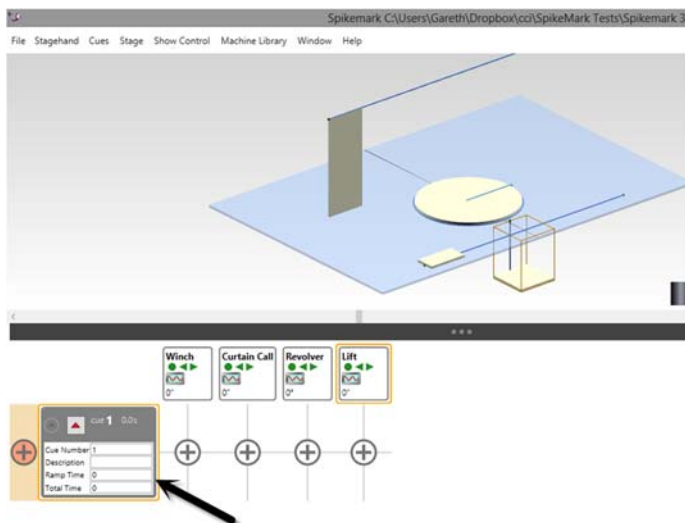

Figure 293
1. Click on the applicable Cue in the **Cue Grid** that contains the motors you wish to set the Spikes for (Figure 293).